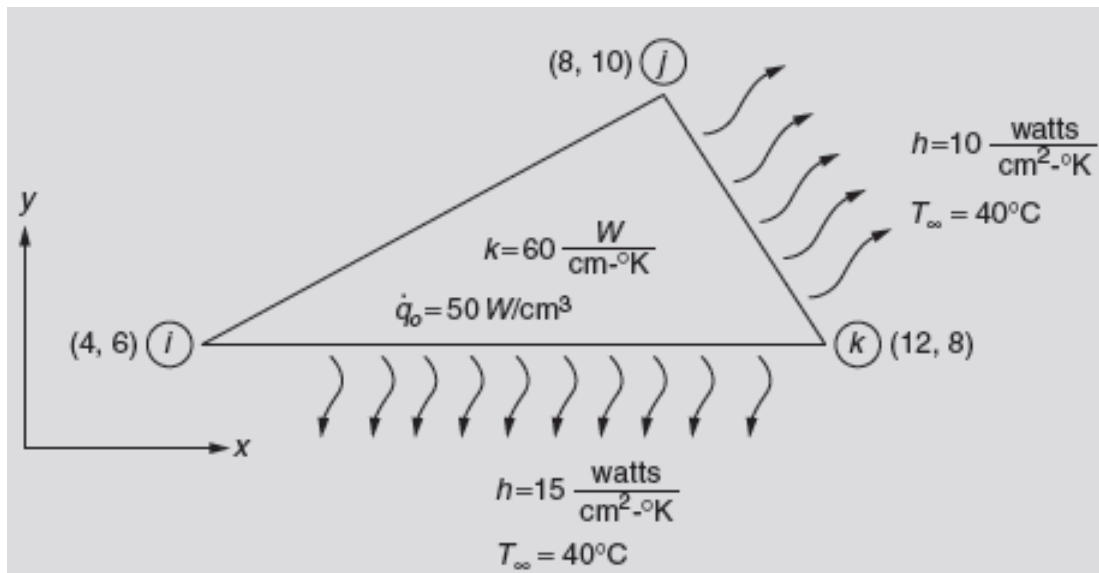

Figure P7.10
10. Compute the element matrices and vectors for the element shown in **Figure P7.10** when the edges jk and ki experience convection heat loss.